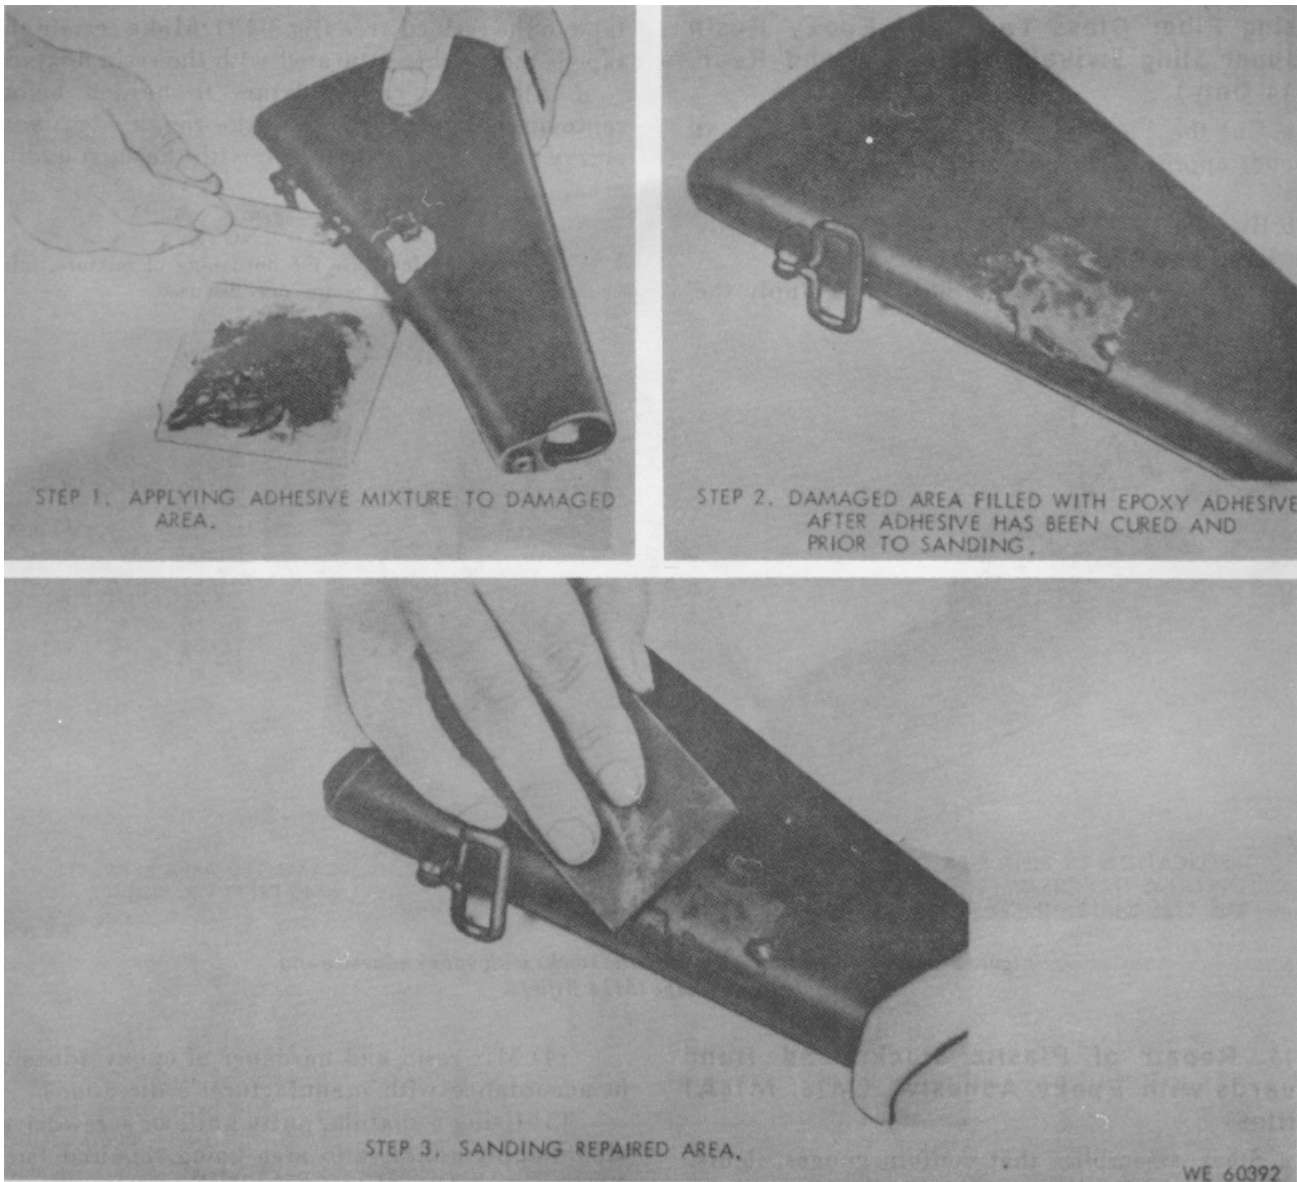

Figure 3-18. Repairing fiber glass / plastic stocks with epoxy adhesive (M16, M16A1 Rifles).
- Using a spatula, putty knife or screwdriver blade, apply adhesive to area being repaired (step 1, figure 3-18). Force the adhesive into the damaged area to eliminate air bubbles which may be trapped under adhesive.
- Using a flat medium cut file or No. 80 grit emery paper, remove the excess adhesive until flush with the stock surface (step 3, figure 3-18).